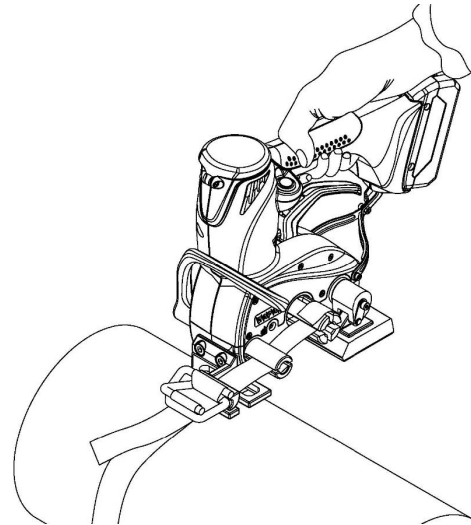

FIGURE 19. APPLICATION OF NOSE PIECE
**NOTE:** When Nose Piece is mounted to support strapping, just need insert the strap into slots of both cutter sleeve (or go above the sleeve when cutting is not necessary), and the windlass, NO NEED to feed the strap beneath the Gripper Foot, push the nose against the leg of wire buckle to proceed tensioning, as (FIGURE 19) shown. Make sure the diameter of round object is bigger than the length of wire buckle.